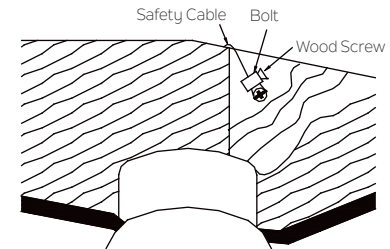

Fig. 7
**Step 2.** Insert the safety cable through the mounting bracket and one of the holes in the outlet box into the ceiling. Adjust the length of the safety cable to reach the screw and washers by pulling the extra cable through the cable clamp until the overall length is correct, put the end of the cable back through the cable clamp, forming a loop at the end of the cable. Tighten the cable clamp securely. Now, put the loop in the end of the safety cable over the wood screw and under the washer. Tighten the wood screw securely. (Fig.7)